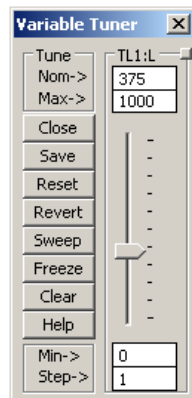

Figure 6.9: Chart 4 : Tune Dialogue Box with Minimum and Maximum set correctly. 'Norm' is the value of the marker.
- In the tune dialogue box set the ‘min’ and ‘max’ values to 0 and 1000 respectively. See figure 6.9